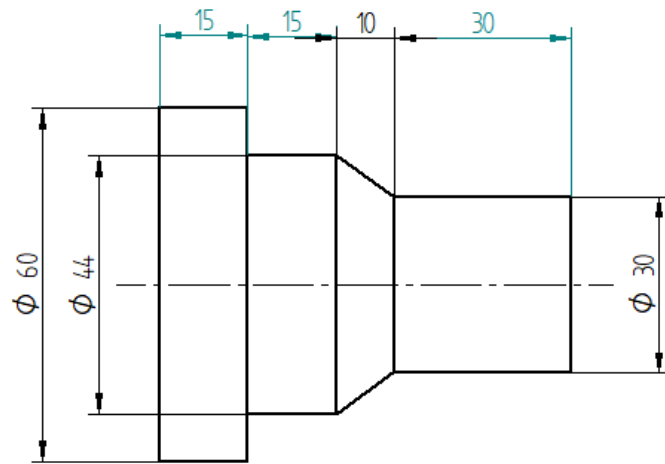

Fig 1
- 5 a) Write a manual part program for the following turning component shown in Fig 1. Use one finish cut and remaining rough-cut to remove the material (Select suitable raw material dimension and any other data can be suitably assumed). Use the following information: **10**